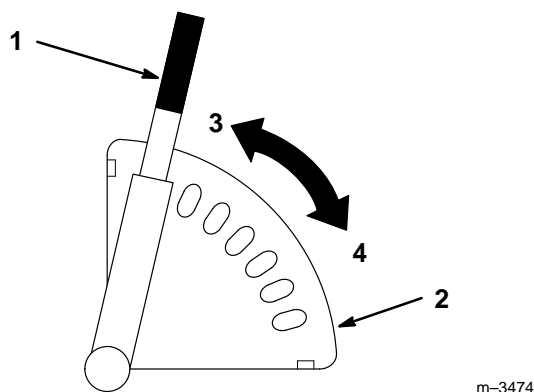

Figure 15
4. Release the lever inward to lock into the quadrant (Fig. 15).